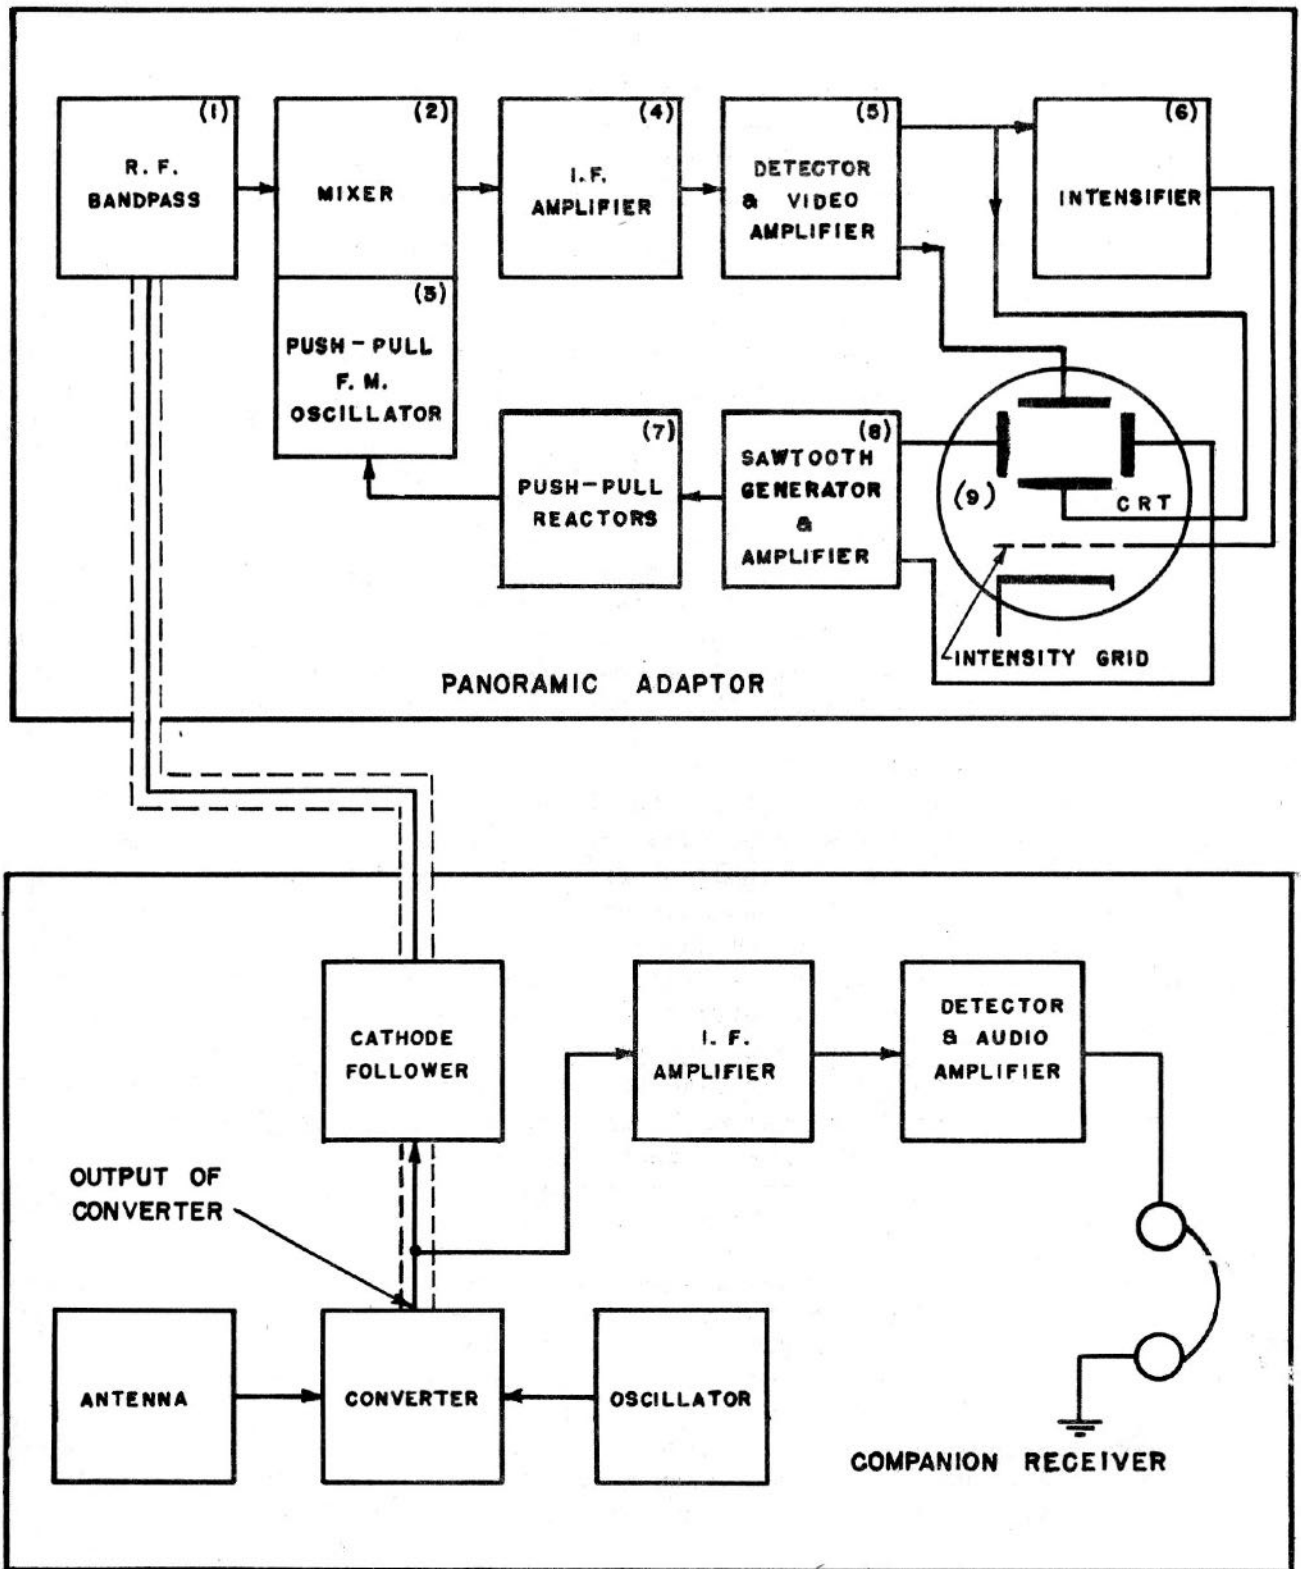
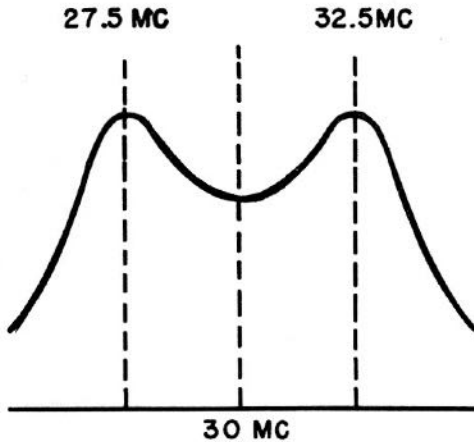

Figure 4-1. - Navy Model RDP, Block Diagram.
Figure 4-4. - Navy Model RDP, Bandpass Characteristic of Input Transformer.
Therefore, due to the overall selectivity characteristics of the R.F. section of the receiver and the special input bandpass amplifier (Fig. 4-1 block (1)) of the adaptor, signal voltages within a band of 10 mc. can be fed to the mixer (Fig. 4-1, block (2)) of the adaptor. The mixer also receives, from an FM oscillator (block (3)), a voltage which sweeps through a bandwidth of 10mc. As the oscillator sweeps through the band of 10mc., it beats progressively and periodically with one signal after another to produce an I.F. of 7.5mc. Thus, one signal after the other is periodically amplified by the I.F. Amplifiers (block (4)) which are tuned to 7.5mc.
a. Bandpass Amplifying Section.- Refer to the block marked (1) in Figure 4-1. This section uses, in cascade, two JAN-6AC7 tubes, V101 and V102, which are high gain pentodes. The first stage of this two-stage section is connected to the output of the mixer of the companion receiver through a cathode follower circuit. The stage is an R.F. amplifier whose output is fed into a specially designed R.F. input transformer, T101-09, which couples the first and second stages. The primary and secondary of this transformer are tuned by distributed circuit capacitances. The coupling between the primary and secondary is such that it produces a double humped bandpass characteristic as shown in Figure 4-4. The humps appear at approximately 27.5mc. and 32.5mc.